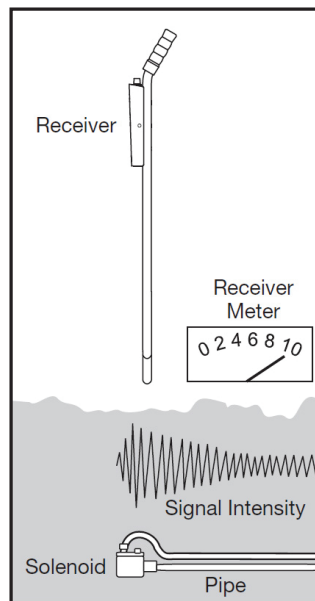

FIGURE 6: Determining Depth
1. Set-up transmitter as in "Set-up Section". The null will be present until you pass over a solenoid valve, and then the signal will become extremely strong. Mark this spot. Check around the hot spot for a null leaving the area. If the null continues, follow it and mark any additional hot spots. (Refer to Figure 6) If only one hot spot or valve is located, it will be the valve in question.